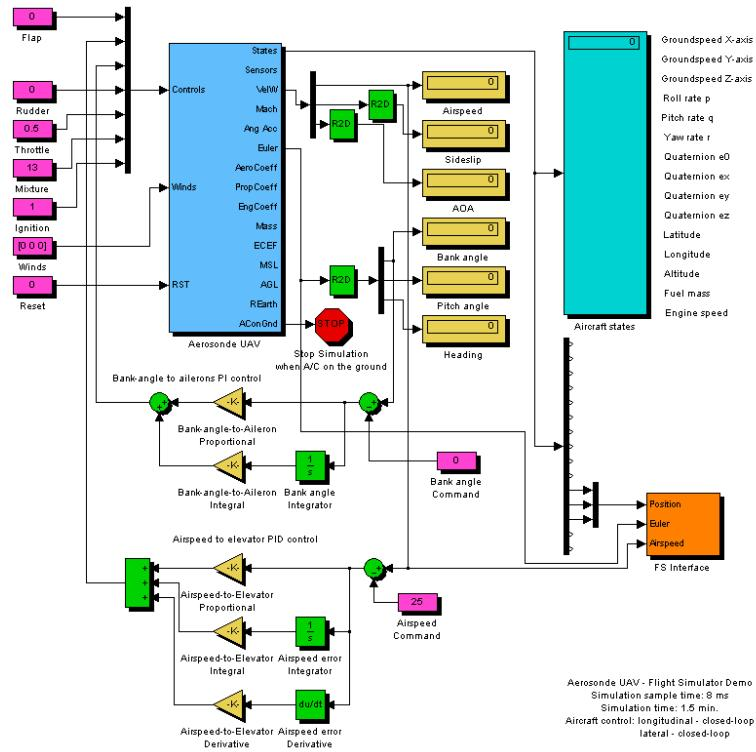

Figure 21: Flight Simulator Demo Model
8. On the Matlab machine, open the Simulink demo **aerosonde_demo_msfs.mdl**. The demo model is shown in Fig. 21